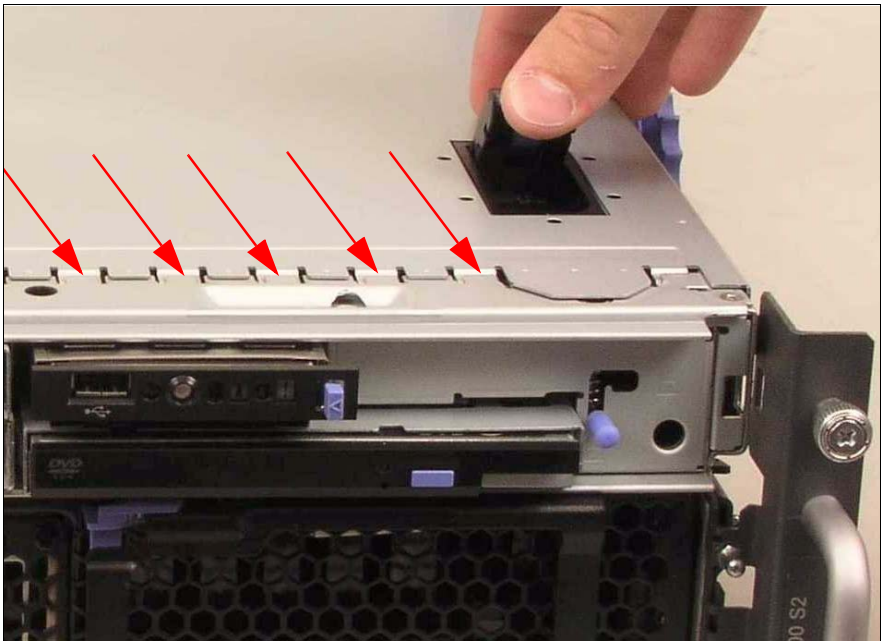

Figure 23: Mounting the housing cover
- Place the cover-release latch in the open (up) position (see figure 23).
- Insert the bottom tabs of the top cover into the matching slots in the server chassis (see arrows in figure 23).